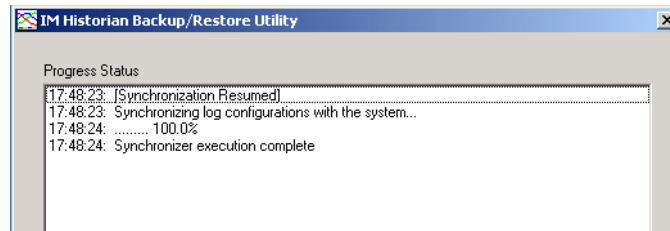

Figure 312. Progress Status
- b. When satisfied that the imported and current Service Groups are properly matched, click **Next** to continue. This displays another Progress Status, Figure 312.